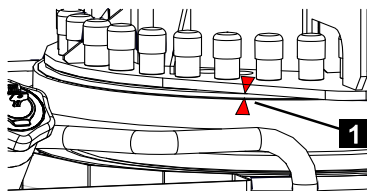

Fig. 173
6. Swivel the platform in the direction of the transport position so that both arrows (Fig.173/1) on the rotation indicator are aligned with each other.